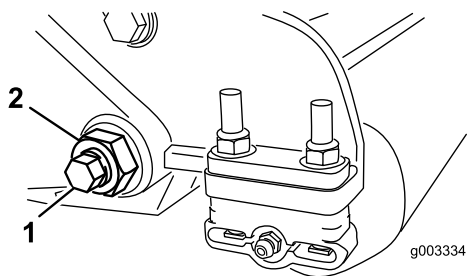
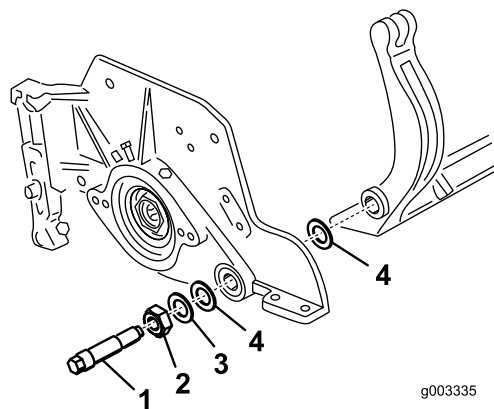

Figure 30
Figure 31
3. On each side of the machine, loosen the lock nut securing the bedbar bolt (Figure 30).
4. Remove each bedbar bolt allowing bedbar to be pulled downward and removed from machine bolt (Figure 30). Account for 2 nylon and 1 stamped steel washers on each end of bedbar (Figure 31).
2. Secure bedbar to each side plate with bedbar bolts (nuts on bolts) and 6 washers. A nylon washer is to be positioned on each side of side plate boss. Place a steel washer outside each of the nylon washers (Figure 31). Torque bedbar bolts to 27-33 ft.-lb (37-45 N-m). Tighten locknuts until the outside steel washer stops rotating and end play is removed but do not overtighten or deflect side plates. Washers on inside may have a gap.